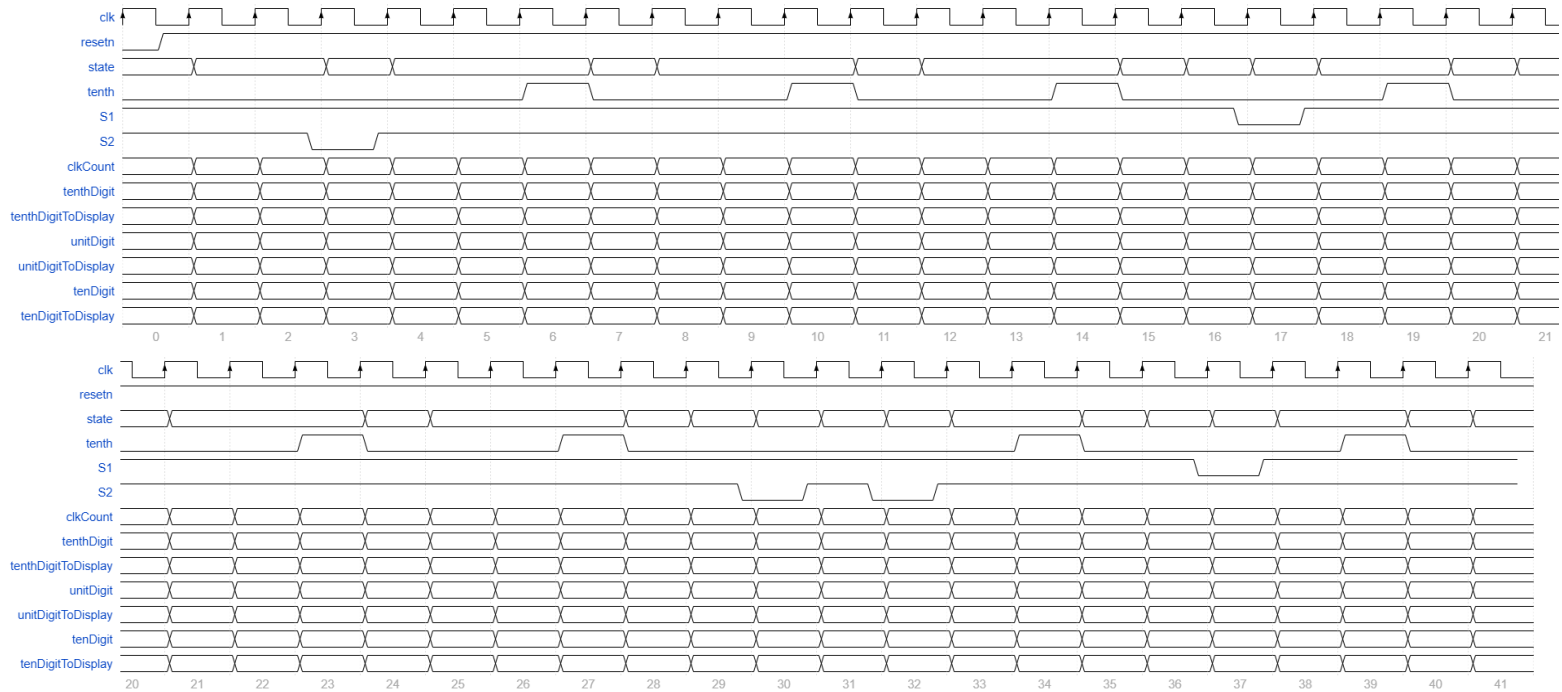

Figure 1.4: Timing diagram that you will run on the testbench.
The timing diagrams in Figure 1.4 show the S1 and S2 signals as they are manipulated by the testbench. The tenth signals will be asserted by your datapath but are included to help you. Your task is to fill in the symbolic name of the state that the FSM is in as well as the clkCount value, the mod10Counter outputs and the values displayed on the 7-segment displays.
Run the testbench using the provided do file and compare the output against Figure 1.4. You will probably need to modify the do file to make it work with your design. Address any problems in the stopwatch before proceeding.
- Completed Figure 1.4. Please: